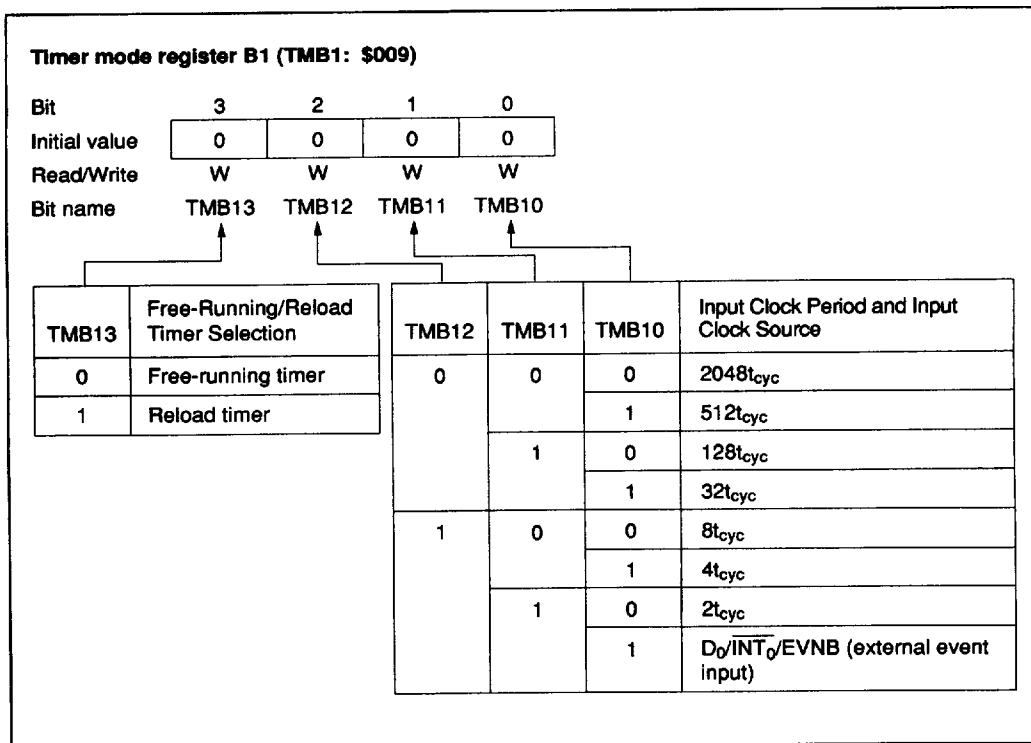

Figure 27 Timer Mode Register B1 (TMB1)
- Timer mode register B1 (TMB1: \$009): Four-bit write-only register that selects the free-running/reload timer, input clock, and prescaler division ratio, as shown in figure 27. It is reset to \$0 by an MCU reset.